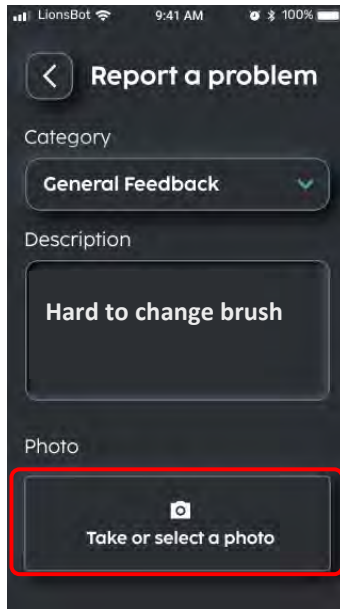

Fig. 4
- Take or select a photo of the problem (Optional) (Fig. 4 and 5).